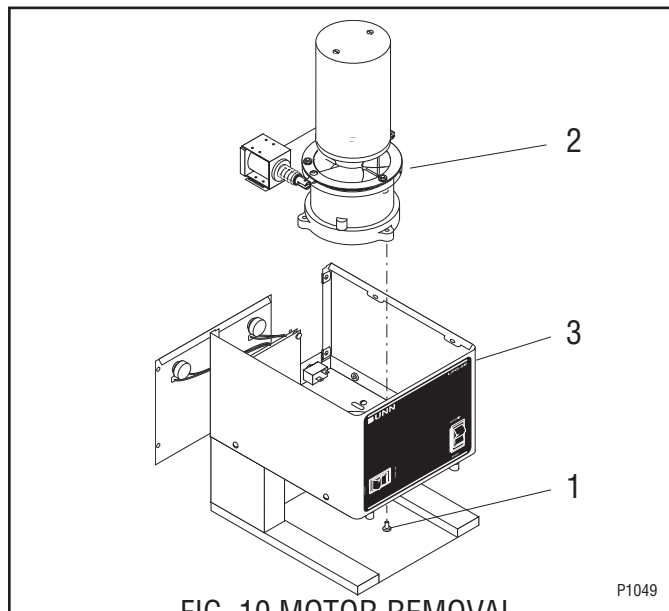

FIG. 10 MOTOR REMOVAL
3. Refer to Fig 10. Remove the three #10-32 x .25" screws (1) securing the motor to the motor support bracket.
4. Remove the motor, solenoid and solenoid components (2) from the hopper housing (3) as an assembly.
27. Install load disc (11) flat side towards rotor.
28. Install burr housing cap (10), adjusting screw, dechaffing spring plate and dechaffer support as an assembly to the new motor and housing assembly (17) using two #10-32 fillister head screws.
30. Install solenoids and solenoid bracket (4) as an assembly on the new motor.
31. Install spacer plate (3) making sure the hole in the spacer plate aligns with the hole in the mounting ring.
32. Install solenoid plunger with spring and slide plate (2) as an assembly into the solenoid coil. Place slide plate on the dowel in the mounting ring. Repeat for the opposite side.
33. Install retaining ring w/hopper gasket (1) using three #8-32 pan head screws and three #8-32 keys nuts.
34. Refer to Fig. 10. Install motor, solenoids and solenoid components (2) in the hopper housing (3) using three #10-32 truss head screws (1).